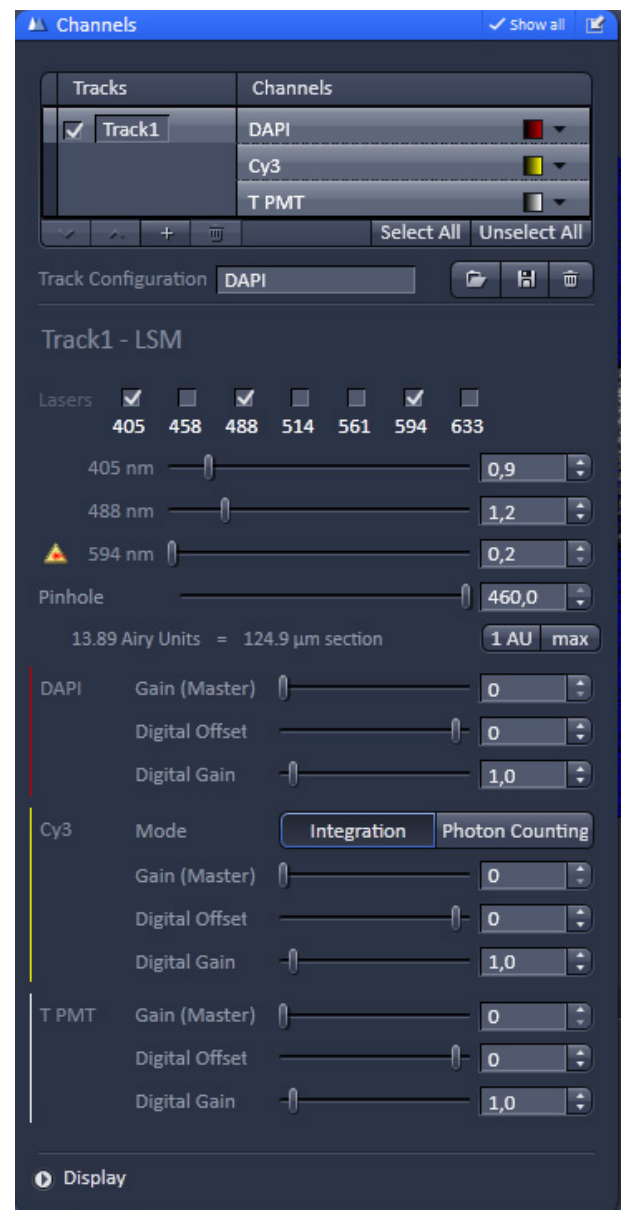

Fig. 24 Channels tool
- Set the **Pinhole** to 1 Airy Unit (Fig. 24).
- When the image is saturated, reduce AOTF transmission in the **Laser** control section of the **Channels Tool** (Fig. 24) using the slider to reduce the intensity of the laser light to the specimen.
- Increase the **Digital Offset** until all blue pixels disappear, and then make it slightly positive (Fig. 24).